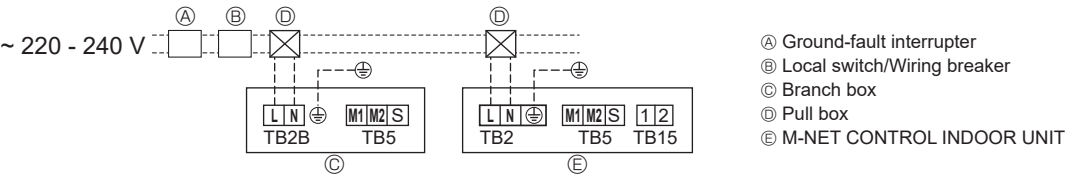

Fig. 7-6
- When Branch box and outdoor unit power supply separately, a switch with at least 3 mm, 1/8 inch contact separation in each pole shall be provided by the air conditioner installation. (Fig 7-6)